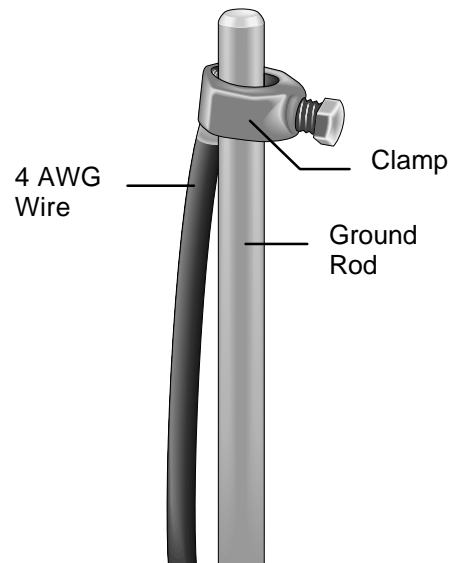

**FIGURE 2-3. Tripod and Component Orientation**
5. Stand the tripod upright and orient it so one leg points south (Figure 2-3). Extend the leg until the top of the slide collar is even with the mark from Step 3 and tighten the bolt. Extend the other legs in the same manner.
Mounting brackets provide a means of mounting the sensors to the tripod. Bracket mounting heights are referenced from the top of the bell reducer; orientation is shown in Figure 2-3.